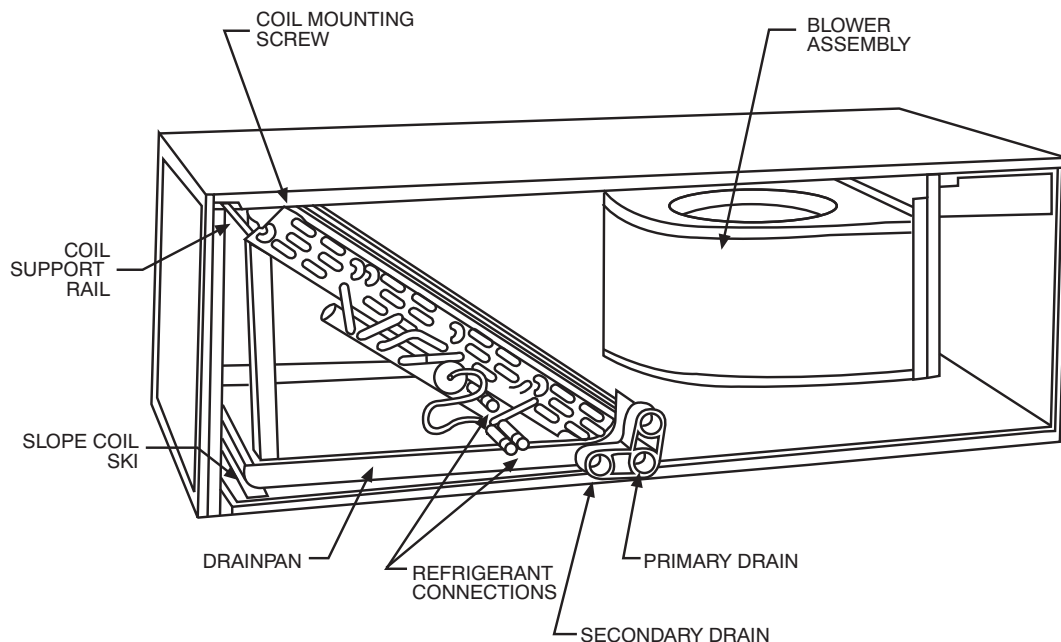

Fig. 6 - Slope Coil in Horizontal-Right Application
1. Remove blower and coil access panels. (See Fig. 6.)
- a. Remove air-seal assembly from coil by removing 4 screws. (See Fig. 6.)
- b. Remove air splitter (B) from coil seal assembly by removing 3 screws. (See Fig. 6-factory-shipped inset.)
- c. Remove filler plate (A) and install air splitter (B) in place of filler plate.
- d. Install filler plate (A) as shown in horizontal right application.
- e. Remove condensate troughs (C) and install on opposite tube sheets.